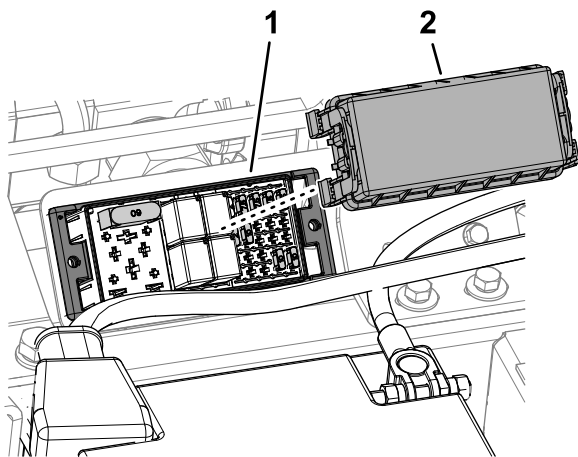

Figure 58
2. Remove the fuse-block cover (Figure 58)
5. Install the fuse-block cover (Figure 58).